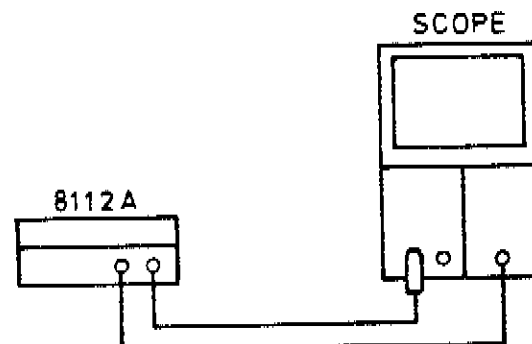

Figure 4-7(A). Equipment setup for fast Transition Times performance test.
1. Connect equipment as shown in Fig. 4-7(A).